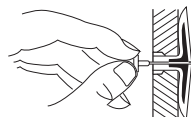

Figure 9 - Popping Open Anchor Wings for Thin Walls
2. Fold wall anchor as shown in Figure 9.